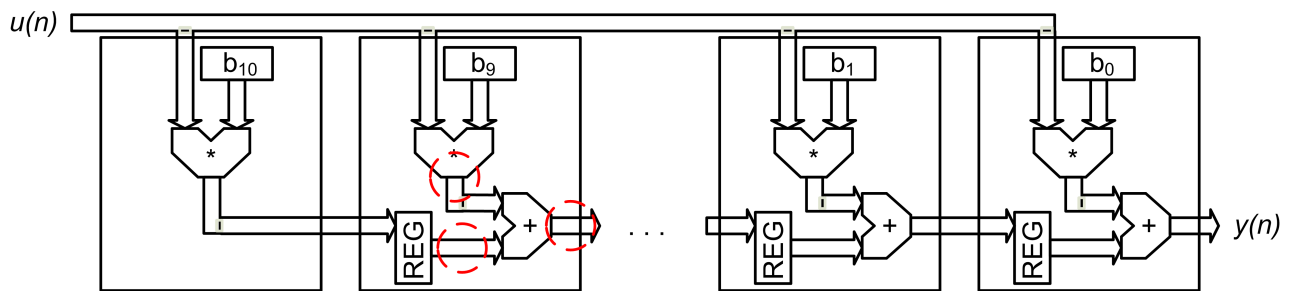

Figure 1. Architecture of the 10th order FIR filter
1. Develop a VHDL model of the 10th order FIR filter based on the architecture in Figure 1 that enables the user to specify the coefficient values and to insert the fault at the desired location inside the filter.